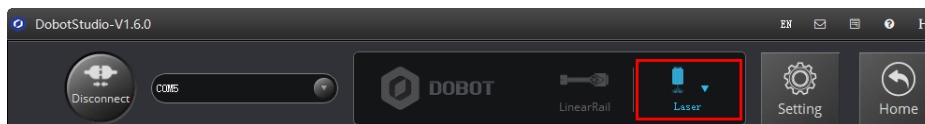

Figure 5.77 Choose Laser as the end-effector
Step 1 Choose **Laser** as the end-effector on the **Write & Draw** page, as shown in Figure 5.77.